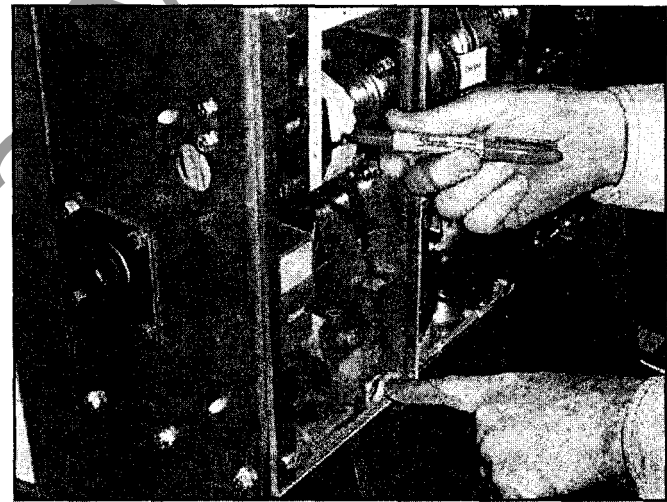

Figure 6-11 With Marker in Hole "C", While Closing Breaker
**Step 8** - While holding the marker tip on the tape, close the breaker (Figure 6-11).